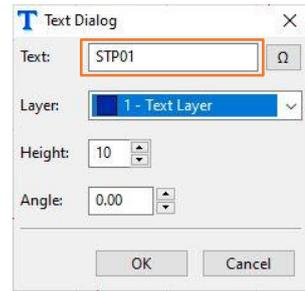

Figure 65
(1) Add labels using the text tool:
- b. Enter the label text “STP01” in the text entry of the appearing Text Dialog (Figure 65).